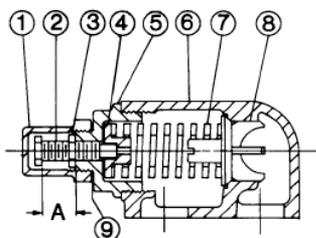
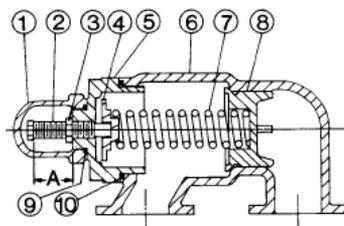

Figure 9. NG-GG4195, NG-HJ4195,
Figure 10. NG-AS4195, NG-AK4195,
2. Measure and record length of extension of adjusting screw. Refer to "A" on Figure 9 and Figure 10.
Reverse procedures outlined under Disassembly. If valve is removed for repairs be sure to replace in same position. Relief valve adjusting screw cap must always point towards suction side of pump. Verify the length of extension of adjusting screw. Refer to "A" on Figure 9 and Figure 10. If pump rotation is reversed, remove relief valve and turn end for end.